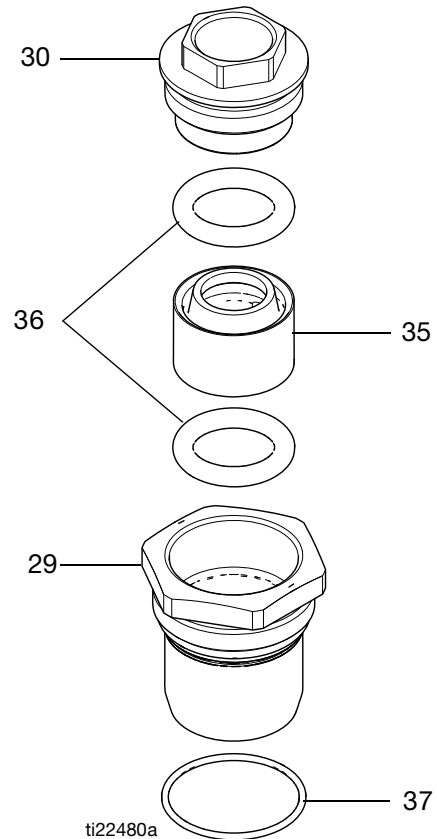

**FIG. 4. Disassemble or Assemble the Bellows**
5. Remove the bellows o-ring (19).
**NOTE:** The bellows assembly includes the bellows nut (25), the bellows (14), o-rings (23, 24), and the bellows sleeve (22). To disassemble, see **Disassemble the Bellows Assembly** on page 8 and FIG. 4 on page 9.
7. Remove the four capscrews (33) from around the base of the bellows chamber (13). Lift the bellows chamber straight up off the fluid outlet housing (8). Be careful not to damage the piston rod (3).
See FIG. 4, page 9.
7. Remove the bellows o-ring (19). See FIG. 4, page 9.
8. Remove the bellows assembly from the bellows chamber (15). Remove the o-ring (23).
9. If the bellows has failed, also remove the breather valve (28) from the top plate. Clean the fluid path of any clogged paint.